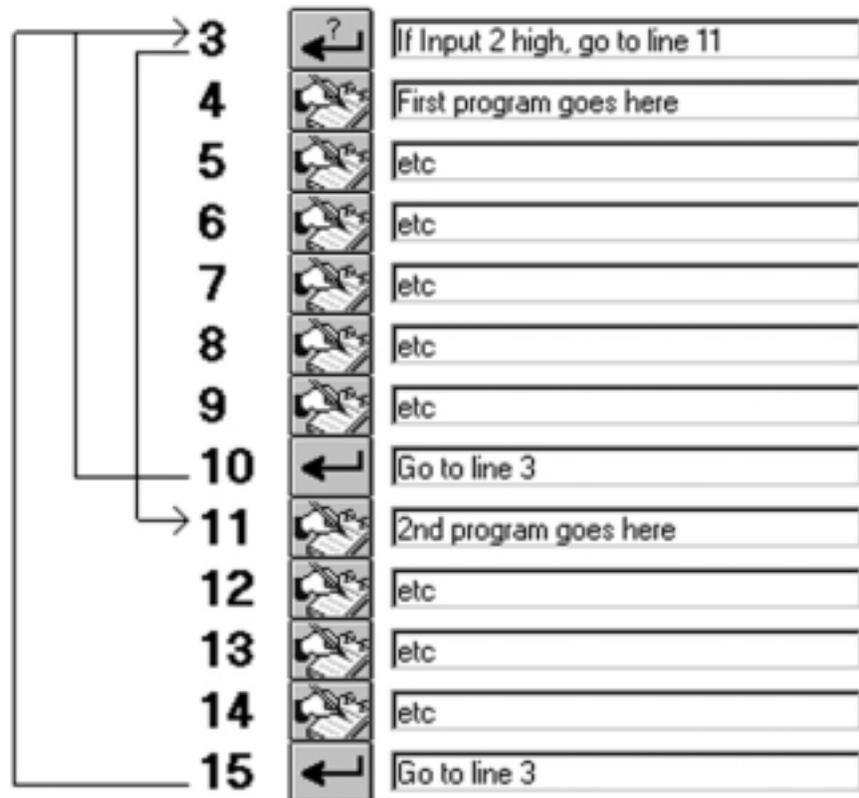

Figure 69
3. It allows the use of multiple programs within the 100 line program space. It may be that the system to do is two completely different things depending on an input. If each of these tasks requires 4 instructions, the program should look like Figure 69.